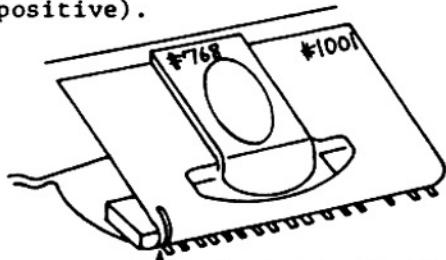

fig. 30 Land of Combination magnet
11. Breakage of land of Combination magnet on #1001. See Figure 30. FPC